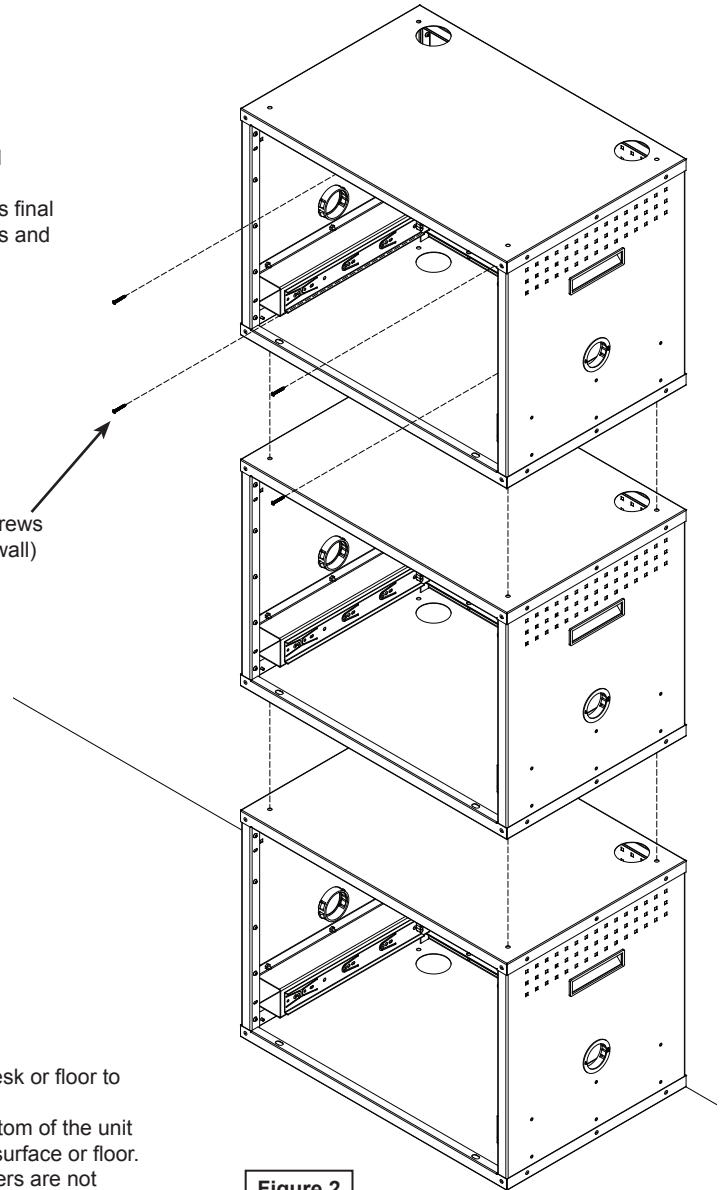

Figure 2
- With the storage modules removed, stack one unit on top of another in its final location. Secure the two units together with (4) 1/4-20 x 5/8" PHM screws and locknuts. Tighten securely. **Figure 2.**
- Use (4) #12 x 1-1/2" PHSM screws to anchor the top unit to the wall.